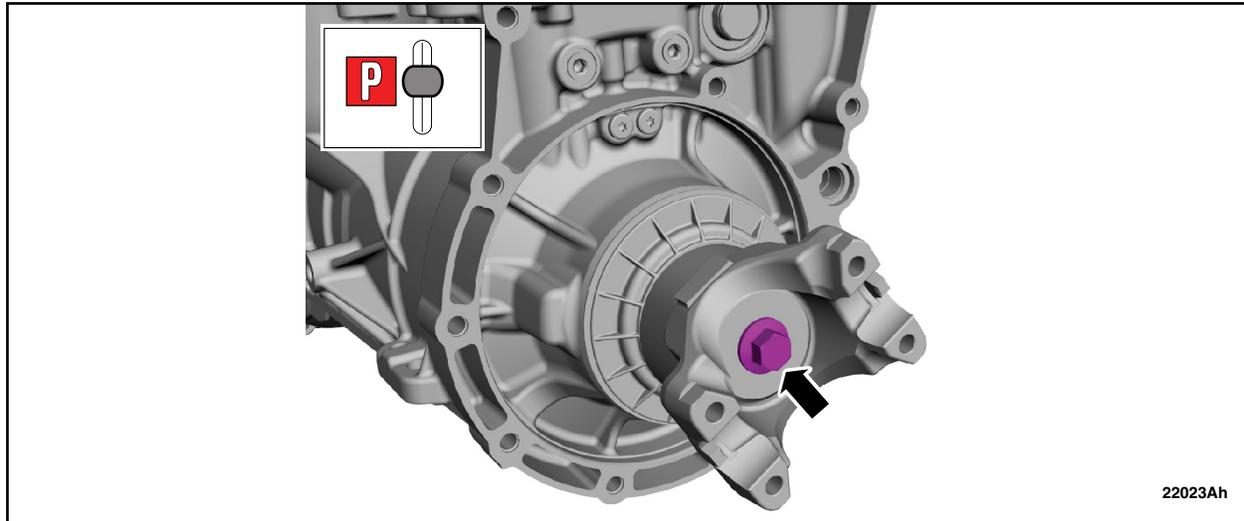

FIGURE 11
14. Rotate the manual control lever to Park (P,) and remove the output shaft flange bolt. See Figure 11.